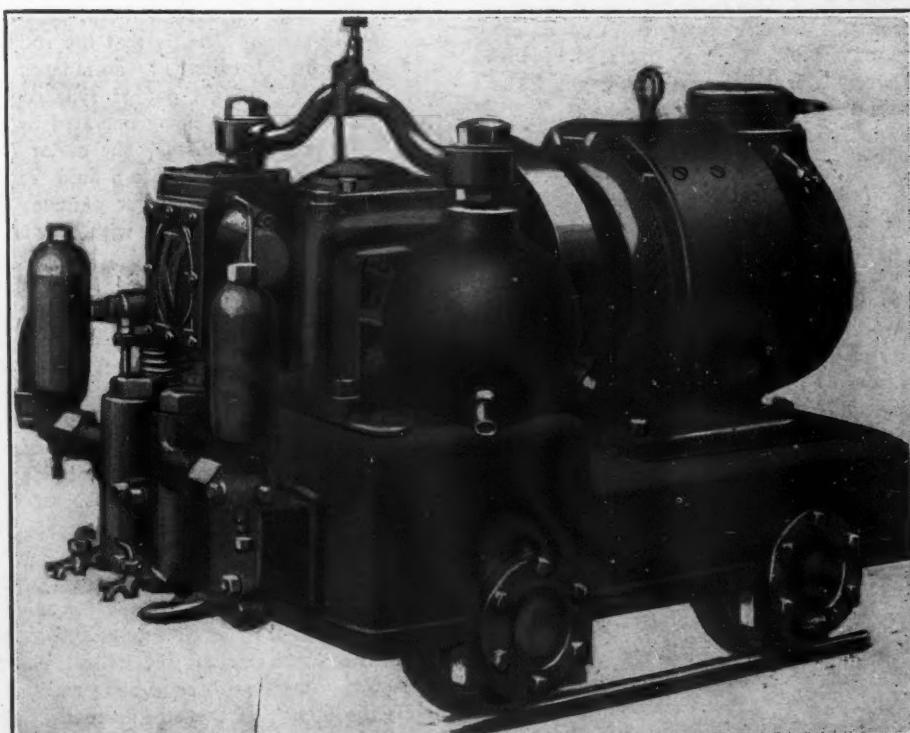

Fig. 1. Portable wave power generator.
*Fig. 1. International Metal Stamping Co., Detroit, Mich. No. 7 "Little David" grinding metal stamping dies. Fig. 2. Breaking out cores at foundry of Marion Steam Shovel Company, Marion, Ohio, with No. 5 hammer. Fig. 3. "Little David" chipper in the plant of the Standard Process Steel Corporation, Phillipsburg, N. J. Fig. 4. Sand blasting at the Prizer & Painter Stove Works, Millmont, Pa. Air furnished by Ingersoll-Rand compressor. Fig. 5. No. 1-S chipper on automobile cylinder castings at D. J. Ryan Foundry Co., Ecrose, Mich. Fig. 6. Two ton "Imperial" hoists used for pouring on moulder floor at foundry of W. A. Jones Foundry Co., Chicago, Ill.*
of the room without any definite sequence of operations. For this reason the overhead monorail system is not a closed circuit but involves switches and cross-overs. A very clever and simple arrangement has made it possible to use the hoists where they are needed and then keep them moving to the desired point with the smallest possible loss of time. The arrangement of switches also makes it possible to use a minimum number of hoists and keeps the machines in operation continuously. Since the Porcelain Enamel and Manufacturing Company has substituted "Little David" air hoists for chain hoists they have performed three times the work in this department with the same number of men. Figure 1 shows the mixing room mentioned above and the arrangement of the hoists.
Fig. 1. Interior of mixing room. Here "Little David" air hoists are used to lift and transport the materials. Note the monorail system and the ingenious arrangement of the air hose.
Wave power generators are now manufactured by W. H. Dorman & Co., Ltd., Stafford, England. They are made in sizes from ten horsepower upward, and are suitable for frequencies up to 50 cycles per second, the one shown in Fig. 1 developing ten horsepower at 40 cycles. It may be driven by any of the usual means of mechanical transmission.